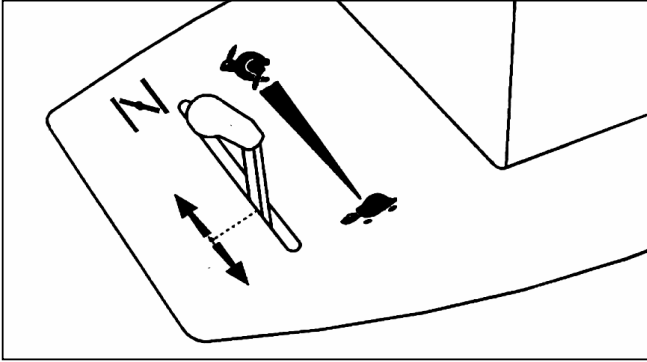

Fig. 16
- Place the throttle control lever in the "choke position" (Fig. 16).
- After starting the engine set the engine speed by the throttle control lever (Fig. 16).
When the pedal is fully depressed, the brake is applied. Then, place the throttle lever at the "turtle" position (Fig. 16).